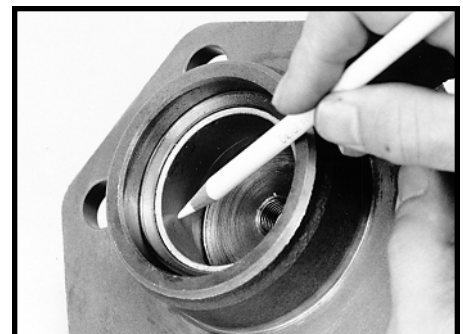

Figure 92A
A side cover and bushing assembly must be discarded if sector shaft (50) to side cover bushing clearance exceeds .008 inch (0.20 mm). SEE FIGURE 92A.